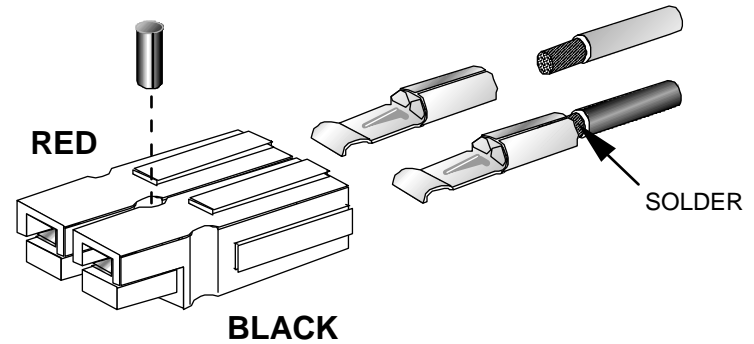

Figure 46. Power Cable Connector Assembly.
- Locate the two Anderson power connector shells. Orient them as shown in Figure 46 and slide them together so the tongue on one side fully engages the groove on the other half.
Insert the terminals into the housings exactly as shown in Figure 46. The terminals should snap securely in place. Pull on the wires individually and make sure they cannot be pulled out (if so, the terminals are probably inserted upside down).